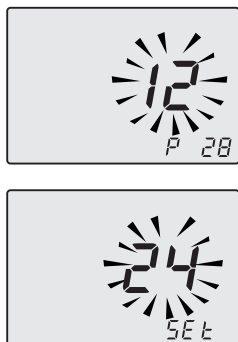

Fig. 10.4
- Use key 12 or 13 to modify the value of parameter 28 from **00** months to **48** months. The value **99**, which disables the maintenance request, is permitted. The writing **P28 - SET** alternates on the display (Fig. 10.4).